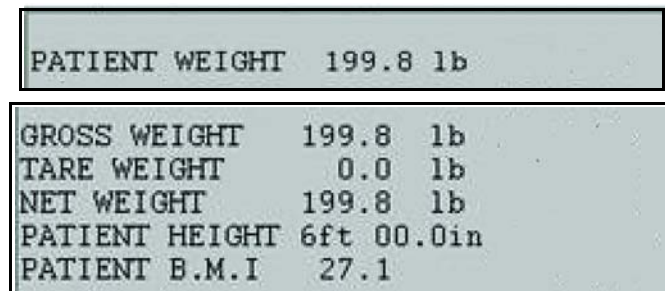
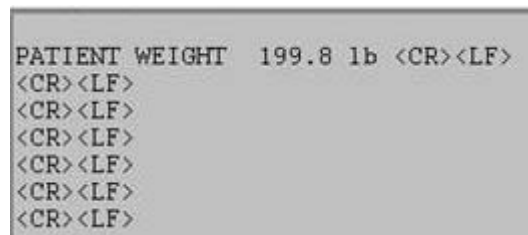

Figure 4-5. Example Tickets
Figure 4-6. IT Example Ticket
**Important** Figure 4-6 is for IT information only. The tickets print as in Figure 4-5.